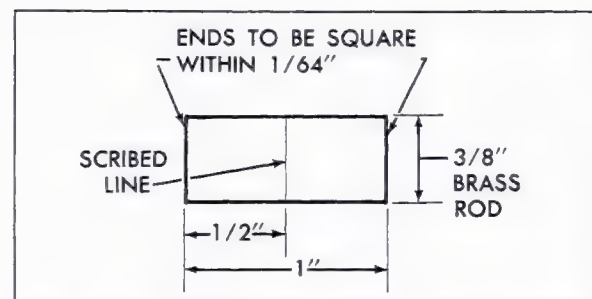

Fig. 7-23 Vacuum Modulator Test Gage
3. Bellows Comparison Check. Make a comparison gage, as shown in Fig. 7-23, and compare the load of a known good Hydra-matic modulator with the assembly in question.